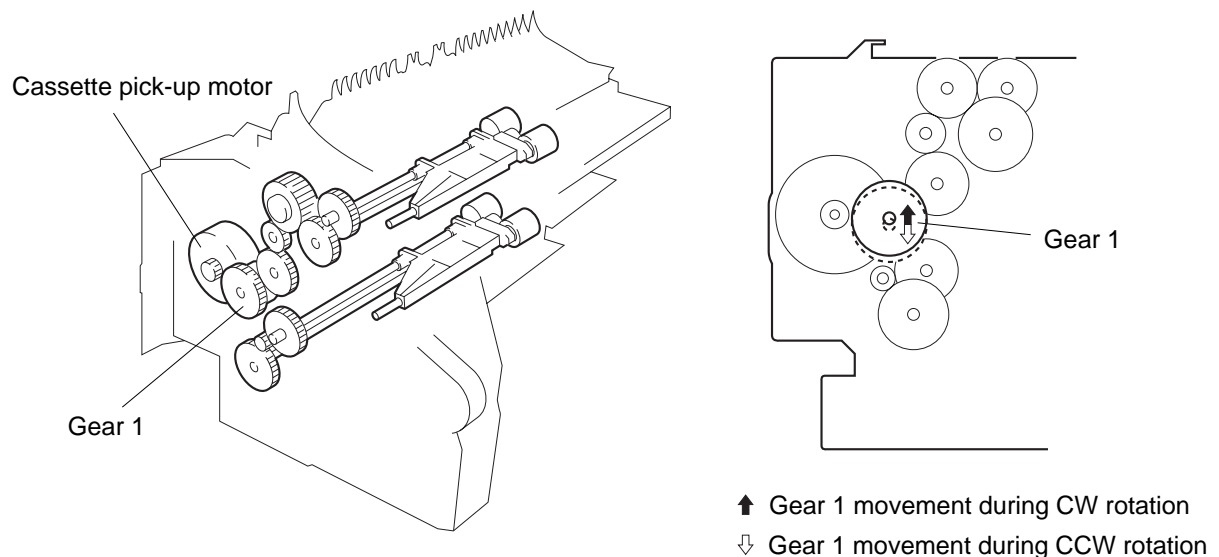

Figure 3-609 Movement of Gear 1 in Relation to the CW/CCW Rotation of the Cassette Pick-Up Motor (M4)
- ① The pick-up roller is rotated by the drive of the pick-up motor (M4) coming by way of gears. The cassette pick-up motor rotates clockwise or counterclockwise to drive the upper/lower cassette.
- ② When the cassette pick-up motor rotates clockwise, the rotation of the motor moves up the gear 1 to drive the pick-up roller of the upper cassette; when the motor rotates counterclockwise, on the other hand, the gear 1 moves down to drive the pick-up roller of the lower cassette. See Figure 3-609 for how the pick-up roller is driven.